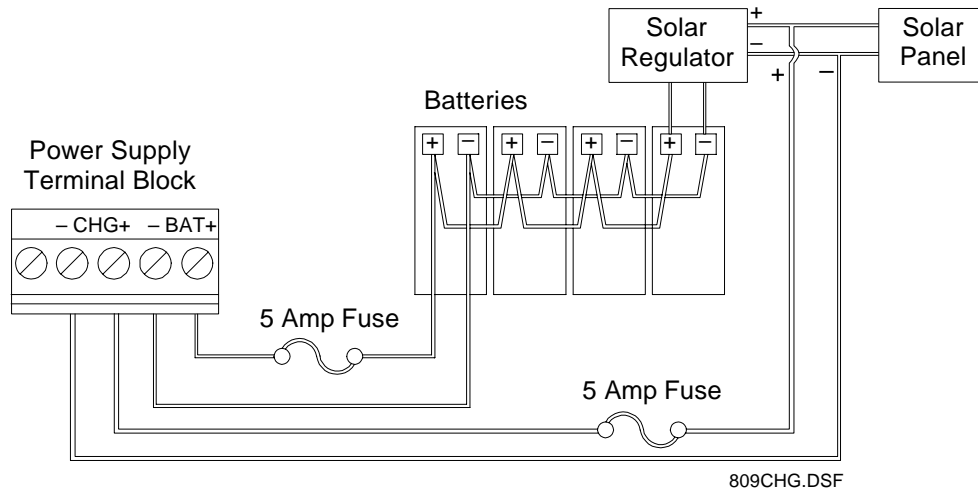

Figure 3-6. 12 Volt dc Power Supply and CHG+ and CHG– Wiring
9. If you are monitoring an external charge voltage (12 Volts dc Power Input Module only), wire the CHG+ and CHG– terminal block connector. Refer to Figure 3-6.
Connect batteries in parallel to achieve the required capacity (refer to Figure 3-6). The amount of battery capacity required for a particular installation depends upon the power requirements of the equipment and days of reserve (autonomy) desired. Calculate battery requirements based on power consumption of the ROC827 and all devices powered by the batteries.